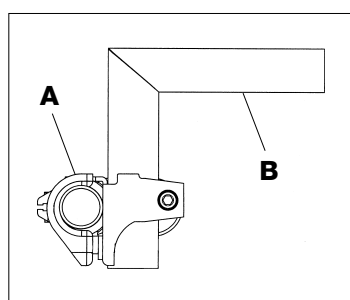

fig. 1
2. In the same position, install the clamp **"A"** and the bracket **"B"** as shown in fig. 1.